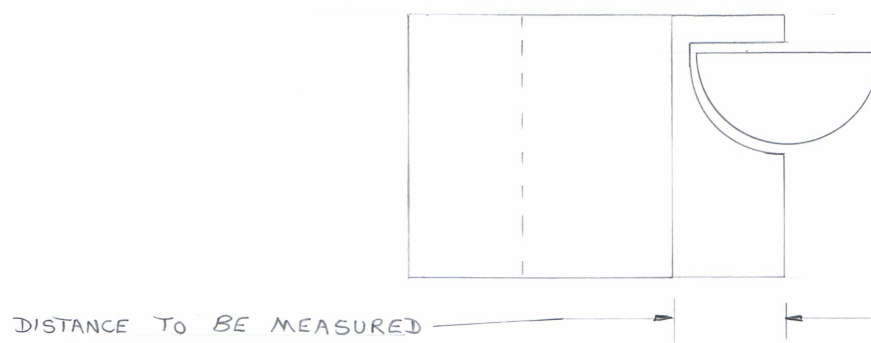
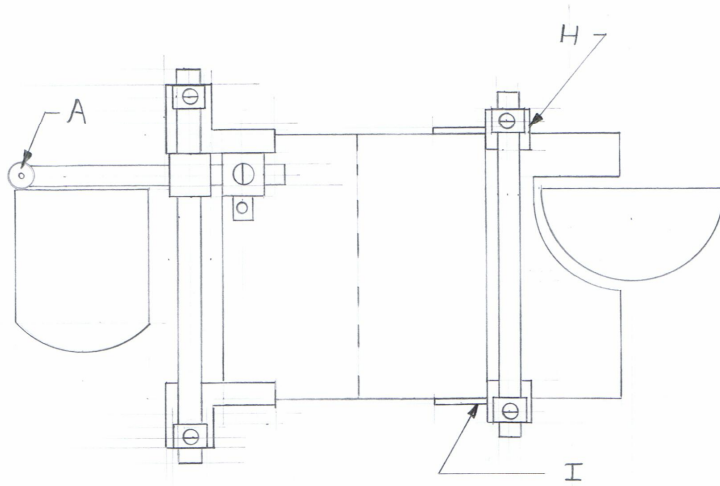

FIGURE 6
FIGURE 7
3. Measure the distance between the tile already laid and the reference tile A as shown in Figure 6.
4. Let us assume the distance measured in point 3 is 100mm. Offset the marker tip by moving it 100mm towards the detachable profiler (A).
6. The brackets from the tile profiler may be too short to locate the reference tile A. In this case use the extension brackets (H) and (I) as well and locate at the other end of the tile as shown in Figure 7.
7. Move the detachable profiler (A) to the extreme position of the toilet as shown in Figure 7.
8. Move the detachable profiler around the toilet. Once the profile has been marked on to the tile, the profiler can be taken off the tile along with the extension brackets (H) and (I) if used.